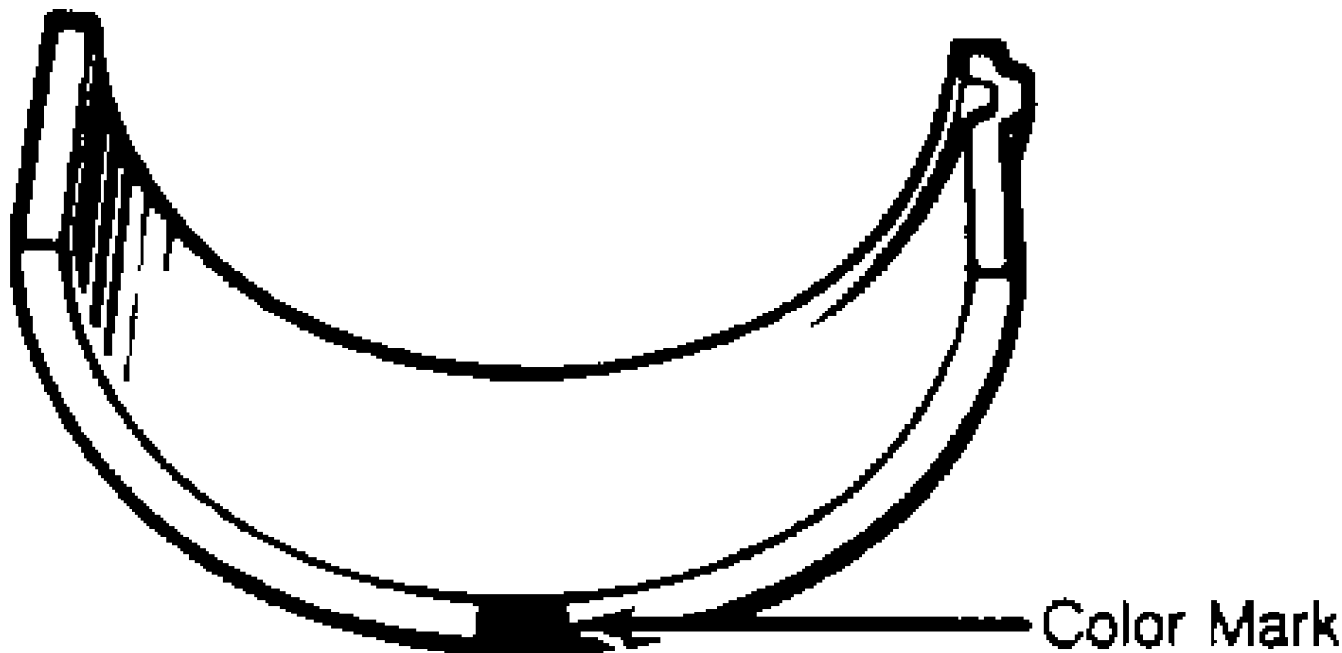

Fig. 19: Identifying Standard Main Bearing Color Mark
4) Standard main bearings are color-coded. See Fig. 19. Upper half of bearing has an oil groove. An arrow mark and number are embossed on each main bearing cap.
9) The letters stamped on cylinder block mating surface, read left to right, indicate cap bore diameters of bearing caps No. 1, 2, 3, 4 and 5, respectively. Five standard main bearing sizes are available. Bearing thickness is determined by color code. See Fig. 19. See COLOR CODE FOR STANDARD BEARINGS table.